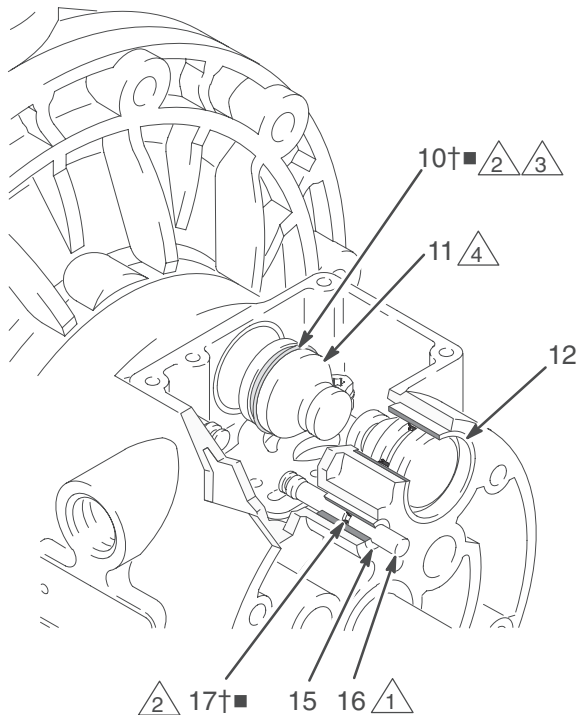

Fig. 9
4. Pull the two actuator pistons (11) out of the bearings (12). Remove the u-cup packings (10†) from the pistons. Pull the pilot pins (16) out of the bearings (15). Remove the o-rings (17) from the pilot pins. See Fig. 9.
6. Inspect the bearings (12, 15) in place. See Fig. 9. The bearings are tapered and, if damaged, must be removed from the outside. This requires disassembly of the fluid section. See page 23.
4. Install an o-ring (17†■) on each pilot pin (16). Grease the pins and o-rings. Insert the pins into the bearings (15), **narrow** end first. See Fig. 9.
5. Install a u-cup packing (10†■) on each actuator piston (11), so the lips of the packings face the **narrow** end of the pistons. See Fig. 9.
6. Lubricate the u-cup packings (10†■) and actuator pistons (11). Insert the actuator pistons in the bearings (12), **wide** end first. Leave the narrow end of the pistons exposed. See Fig. 9.